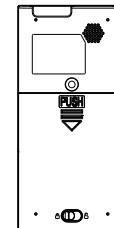

Fig.2-2
1) Open the battery cover: Slide the fixing screw slightly in the rear panel to the position which is marked with "▲" and then push the cover as indicated by arrowhead, as shown in Fig. 2-2.